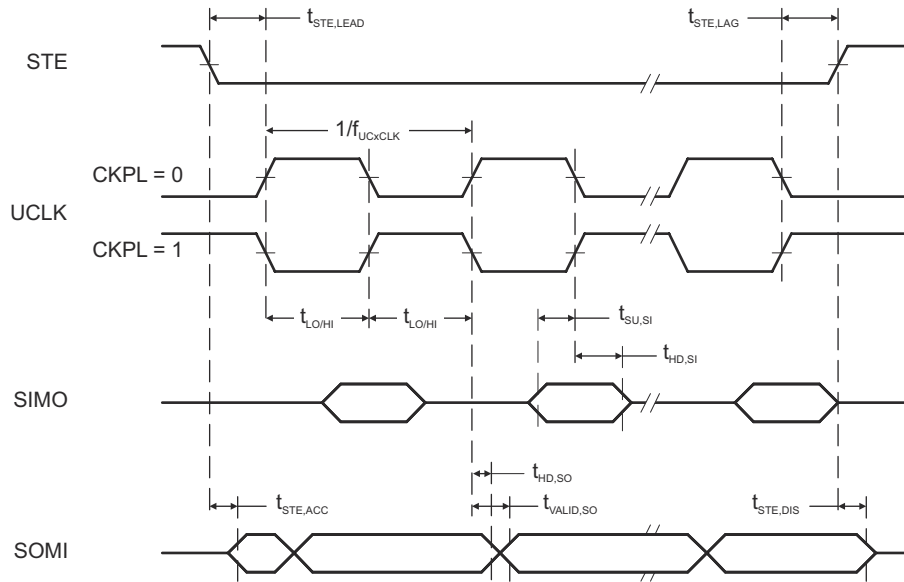
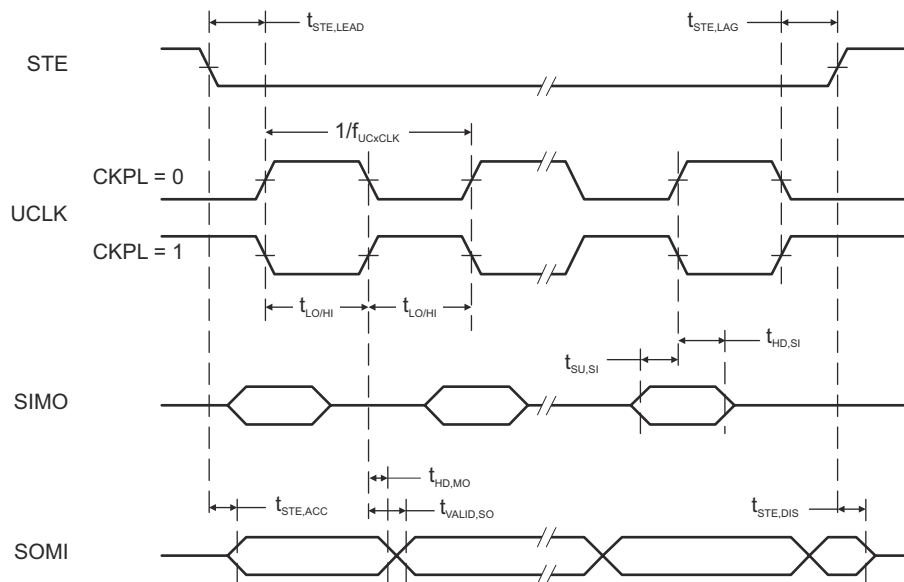

图 8-15. SPI Slave Mode, CKPH = 0
图 8-16. SPI Slave Mode, CKPH = 1
(see 图 8-15 and 图 8-16)
(2) Specifies the time to drive the next valid data to the SOMI output after the output changing UCLK clock edge. See the timing diagrams in 图 8-15 and 图 8-16.
(3) Specifies how long data on the SOMI output is valid after the output changing UCLK clock edge. See the timing diagrams in 图 8-15 and 图 8-16.